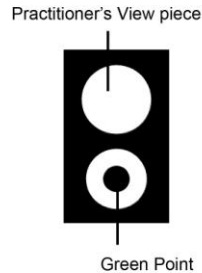

Figure 2
- 6) The patient is able to see through the windows(10), as shown in Figure 2, which allows them to stare at the green point.